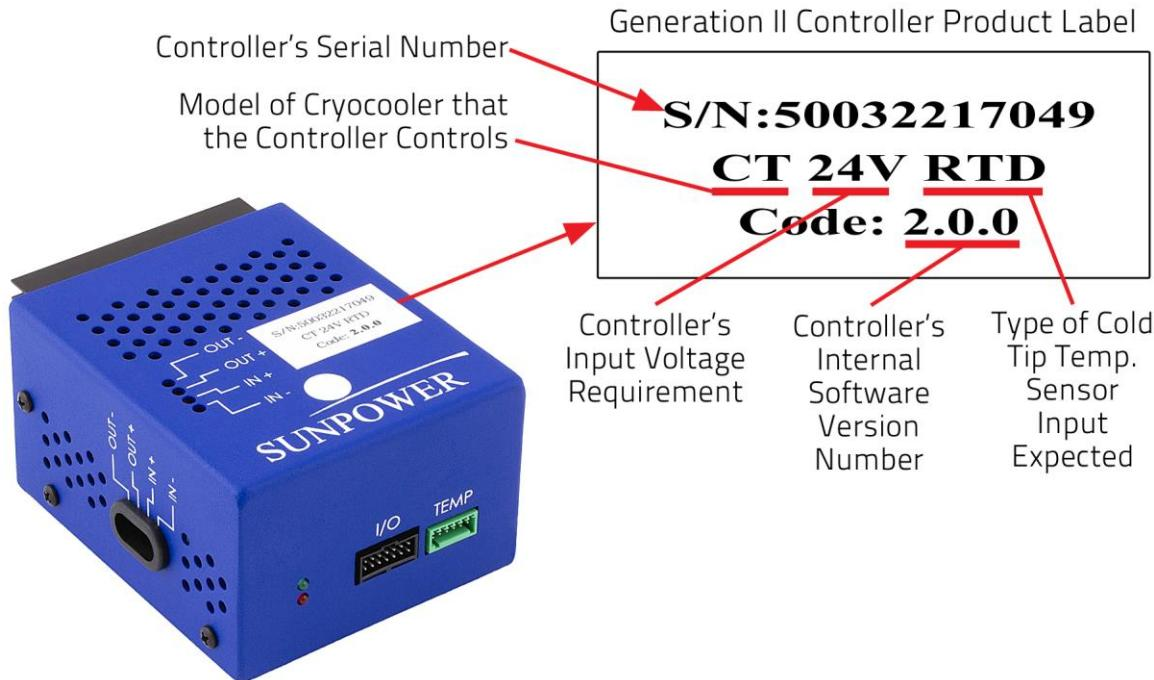

Figure 3-2. Product Label on the Generation II Controller (Example is for CryoTel CT)
Figure 3-2 shows the location of the controller's product label (on the top of the controller) and a closeup of the label. The label lists the serial number of the controller, the type of cryocooler it controls (CT), the controller's input voltage requirement (24 V), the type of cold-tip temperature sensor input it uses (RTD), and the controller's software version number (v2.0.0). The serial number can also be displayed on the connected computer using the **SERIAL** command in the terminal emulation software.